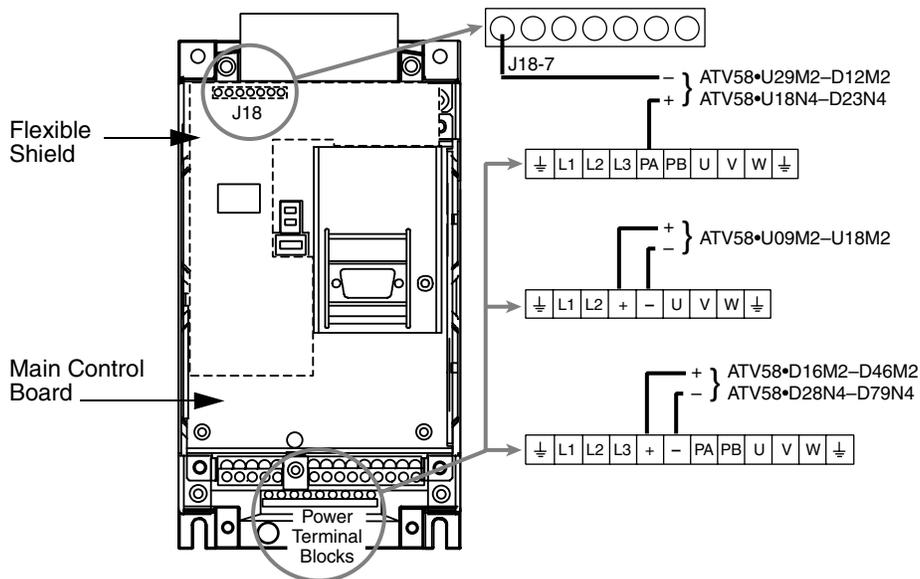

Figure 25: DC Bus Measurement Terminals
The DC bus voltage level is determined by monitoring the (+) and (–) measurement points. Their location varies by drive controller model number as listed in Table 24 and shown in Figure 25. The drive controller model number is listed on its nameplate.
3. Read the model number of the drive controller from the nameplate and identify the corresponding (+) and (-) measurement points from Table 24 and Figure 25.